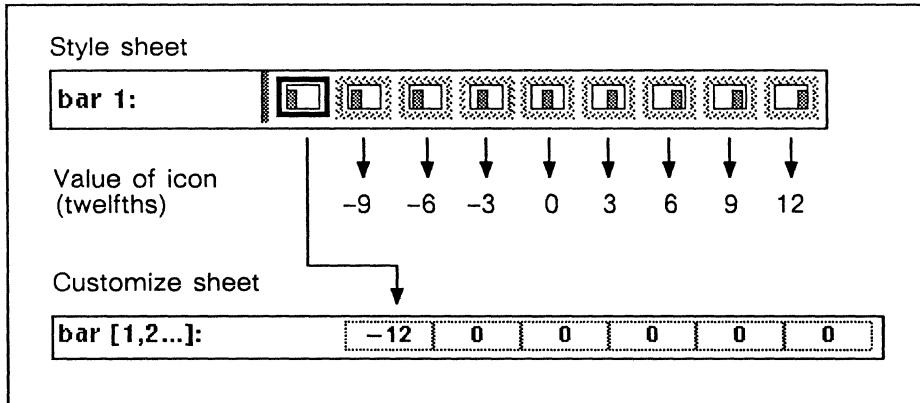

Figure 29-22. Numeric value of bar placement icons
**Bar [1,2,...].** On the Style sheet for bar charts you can control the placement of each bar in relation to the other bars in the same set. For each bar in a set, you can choose one of nine icons to represent the placement of that bar in relation to the others. Bar placement settings are expressed in twelfths. As shown in Figure 29-22, each icon represents a multiple of  $\frac{1}{12}$ .